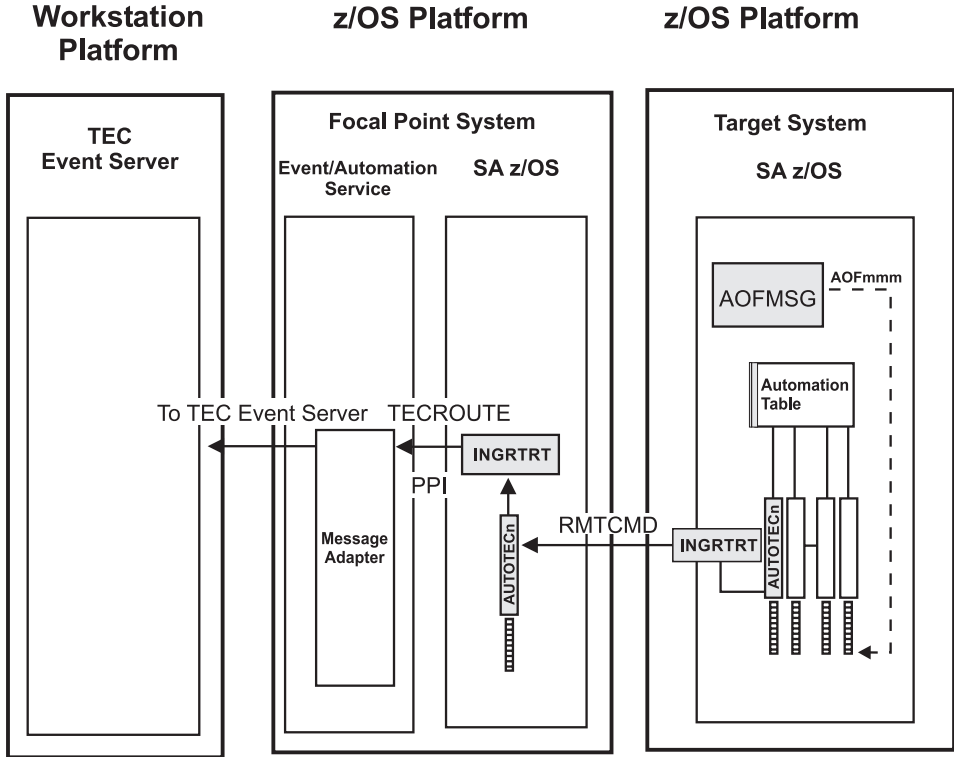

Figure 8. Distributed Configuration: NetView Event/Automation Service Remote to the SA z/OS Source of Messages
- *distributed configuration*: The message adapter or alert adapter is running on an z/OS system different from the one on which SA z/OS is running and issuing messages and alerts. In this scenario, the z/OS system running the adapters must be the SA z/OS automation focal point system. Such a configuration for message forwarding is illustrated in Figure 8 on page 57.